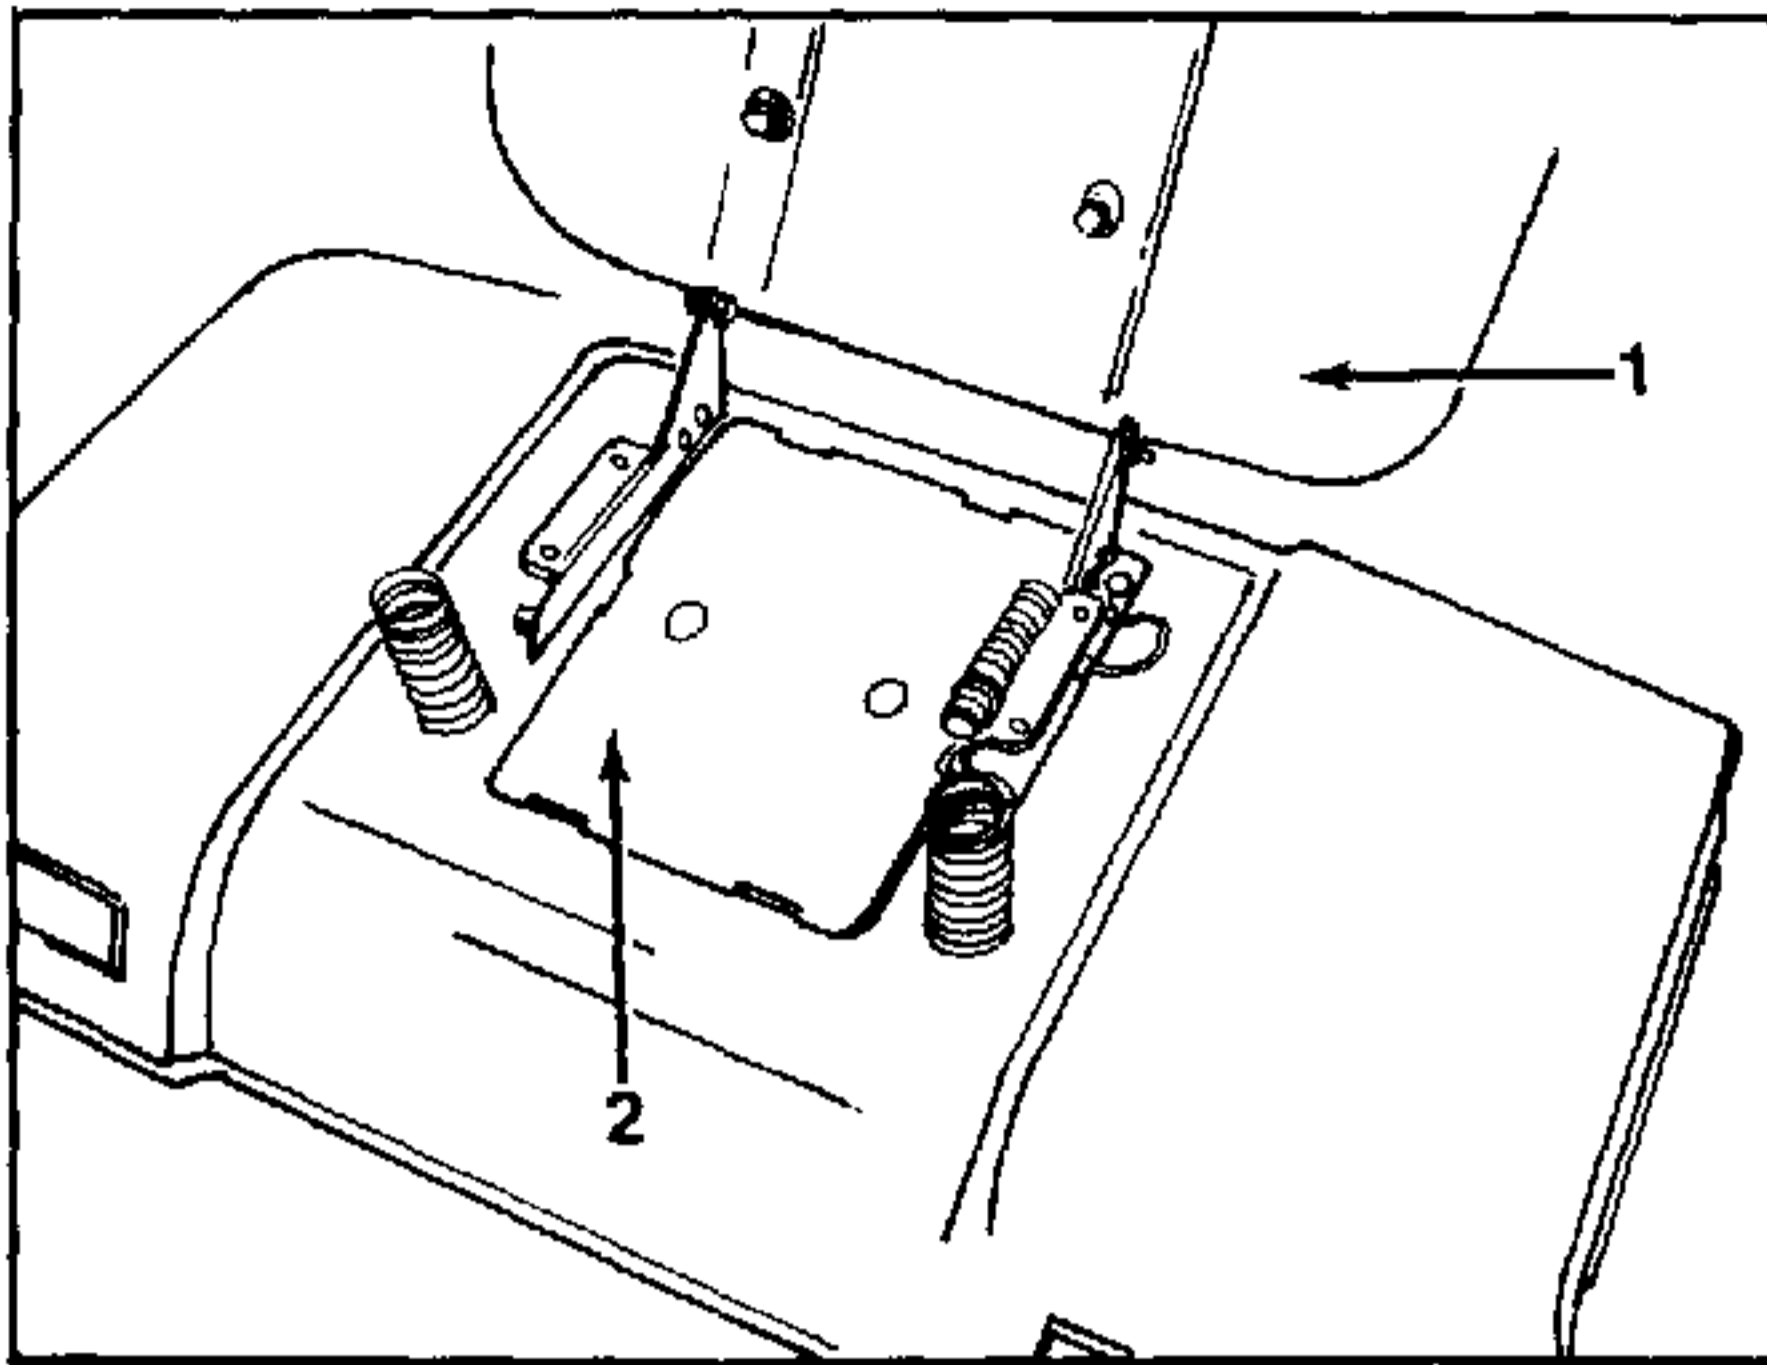

FIGURE 11.
2. Remove the battery cover, by putting fingers into two holes in battery cover and popping off cover. See figures 11 and 12.